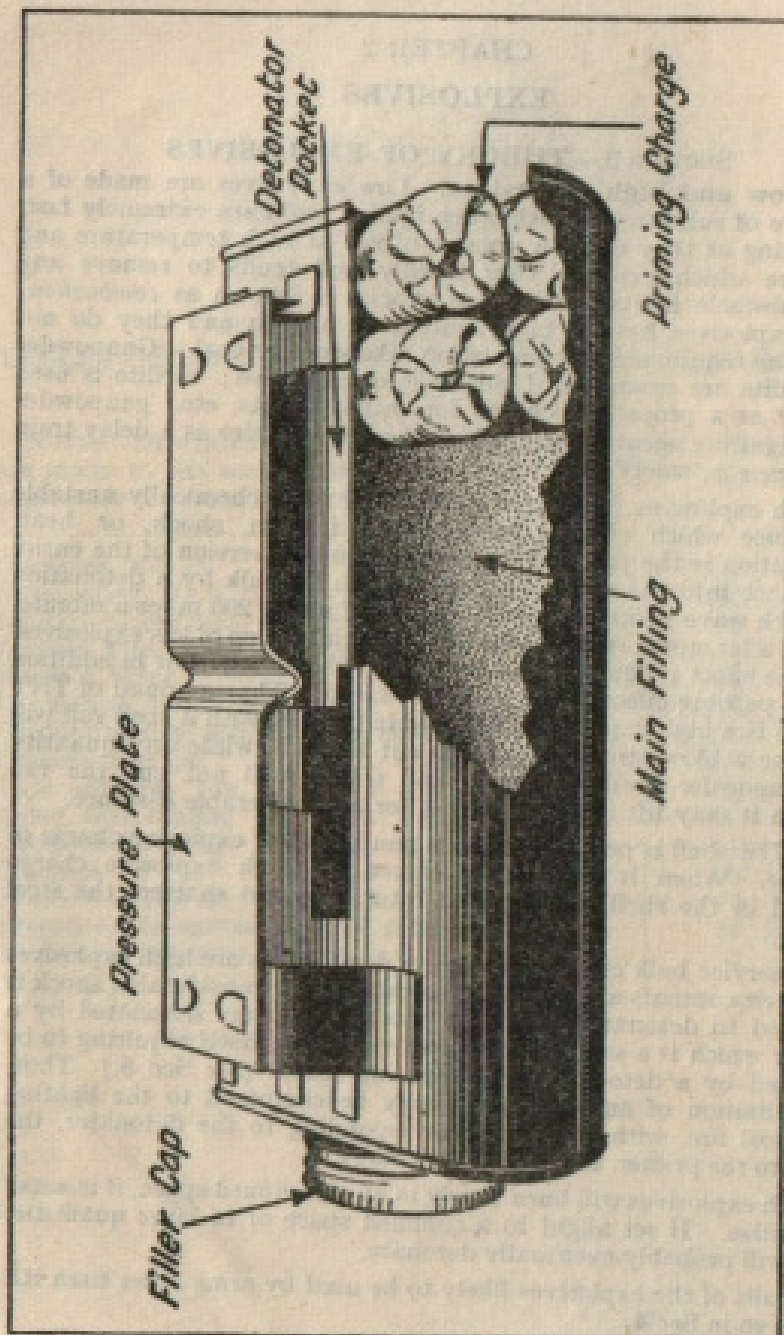

Fig 1. 75 grenade Mark 1, sectional view
1. No. 75 grenade (See Fig 1)
(a) *Description.*—This is a screw cap metal container filled with $1\frac{1}{4}$ lb of HE with a special primer inside the container at the opposite end to the screw cap (see Fig 1). On top of the container is a pressure plate with special pockets underneath for the detonator and igniter sets used when the grenade is employed as an anti-tank mine (see Military Training Pamphlet 40, Part I). Twelve grenades are packed in a tin box with 24 detonator and igniter assemblies.